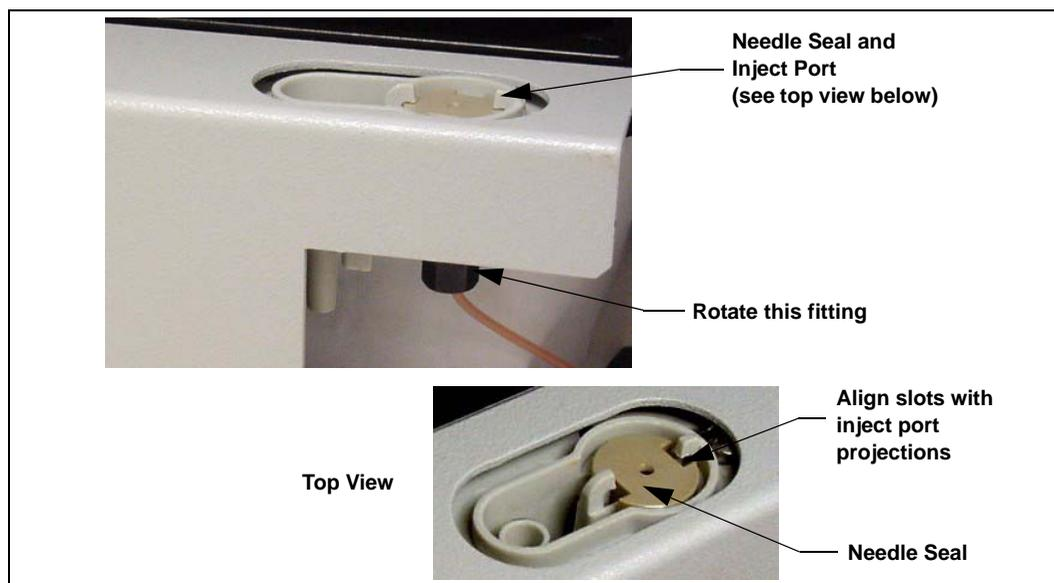

Figure 5-14. Removing the Needle Seal Assembly
3. Rotate the fitting below the inject port until the slots in the needle seal line up with the projections on the top of the inject port (see Figure 5-14).